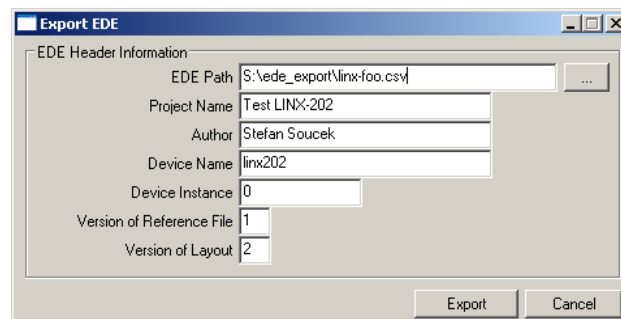

Figure 127: EDE Export Dialog.
2. Right-click and select **Export EDE ...** in the context menu. This opens the EDE export dialog to enter the EDE header information as shown in Figure 127.